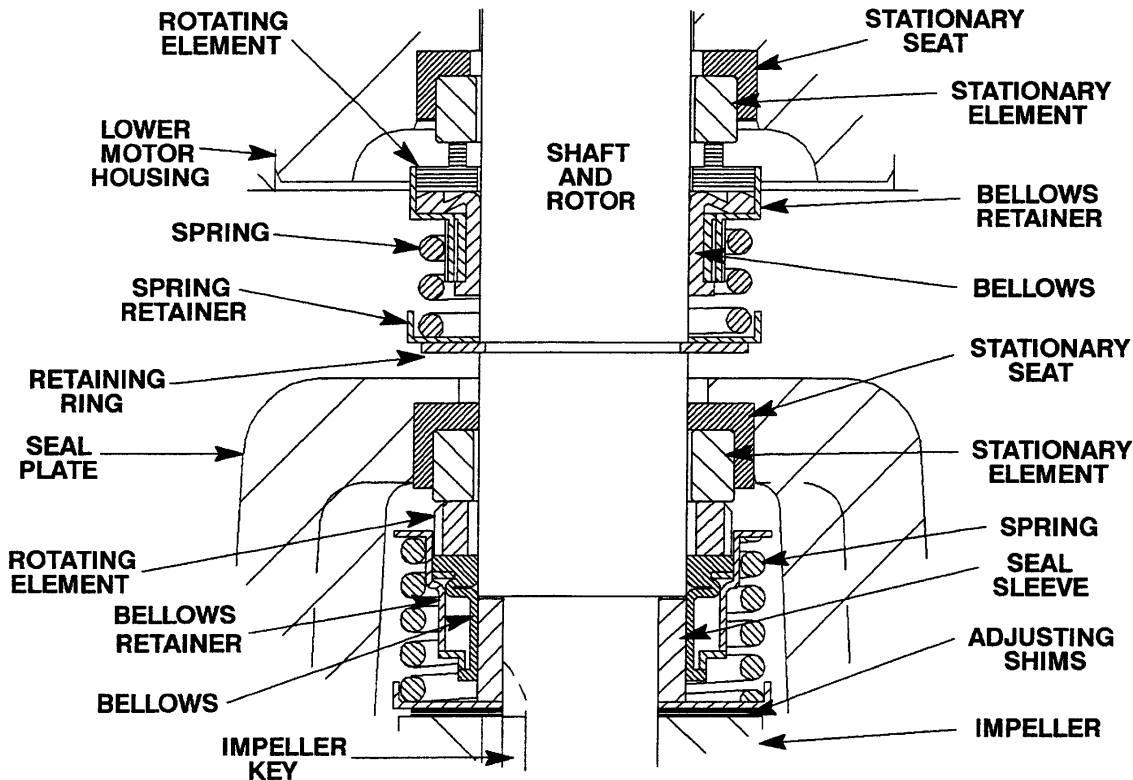

Figure C-2. Lower And Upper Seal Assemblies
Install the shaft seals as illustrated in Figure C-2.
Slide the seal spring over the shaft and against bellows retainer, and install the spring retainer (72). Install the seal retaining ring (5). See Figure C-2 for proper order of seal assembly.
Slide the seal spring over the shaft and bellows retainer. Install the spring retainer. See Figure C-2 for proper order of seal assembly.